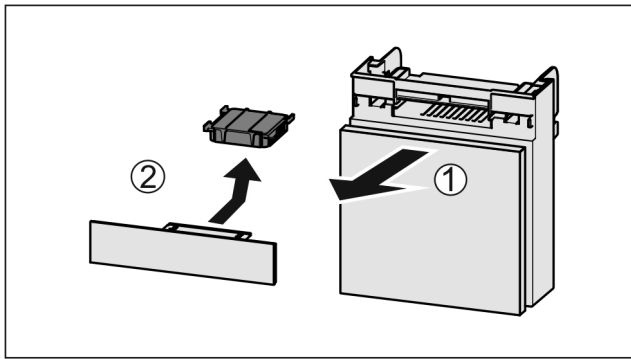

Fig. 225
- ▶ Pull out the compartment Fig. 225 (1).
- ▶ Remove the carbon filter Fig. 225 (2).